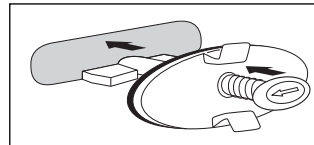

Fig. 4
- For elongated overflows, press the roll pin and tip the locking lever so that it stands at right angles to the roll pin (Fig. 4).